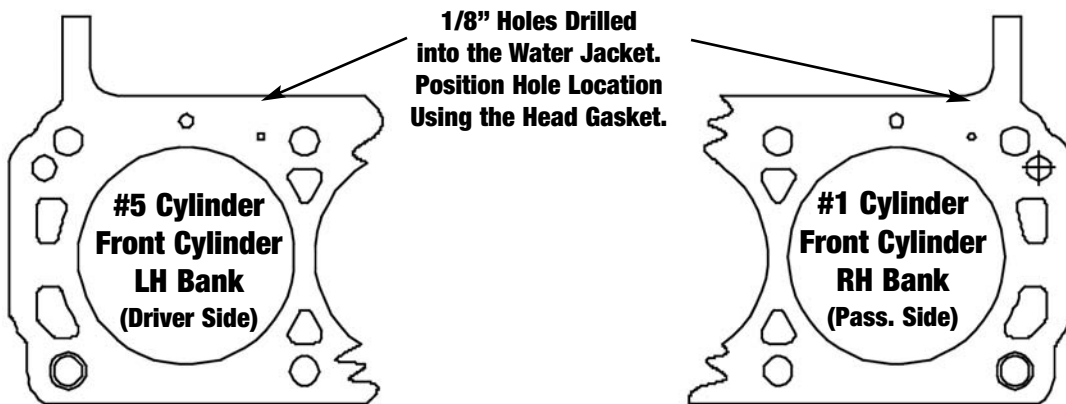

Figure 2 - Steam Hole Locations for Early 289 & 302 Engine Blocks
- Check the upper deck to see if you have an early or late model block (not needed with 351-W): a) Late model 289-302 blocks have the water passages located next to the head bolt location on the deck of the block (This block **will not** require drilling). b) Early 289-302 blocks will have the water passages located directly over the cylinder upper deck area and will require drilling 1/8" steam holes as seen in Figure 2.